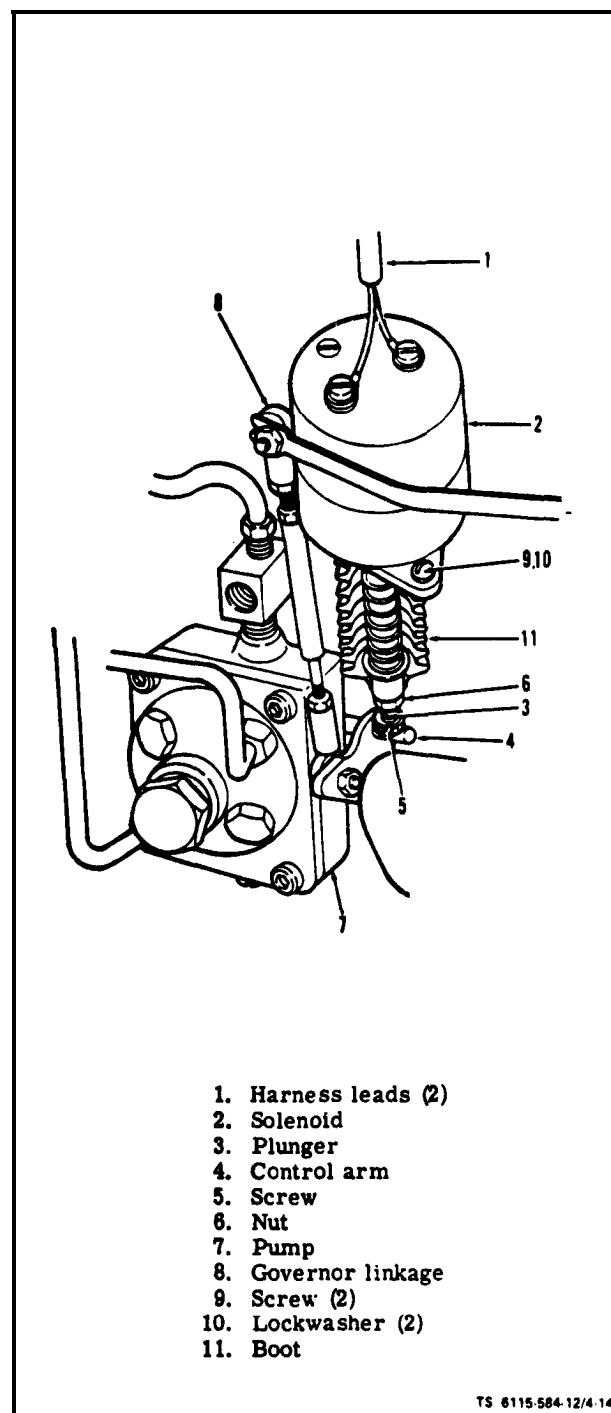
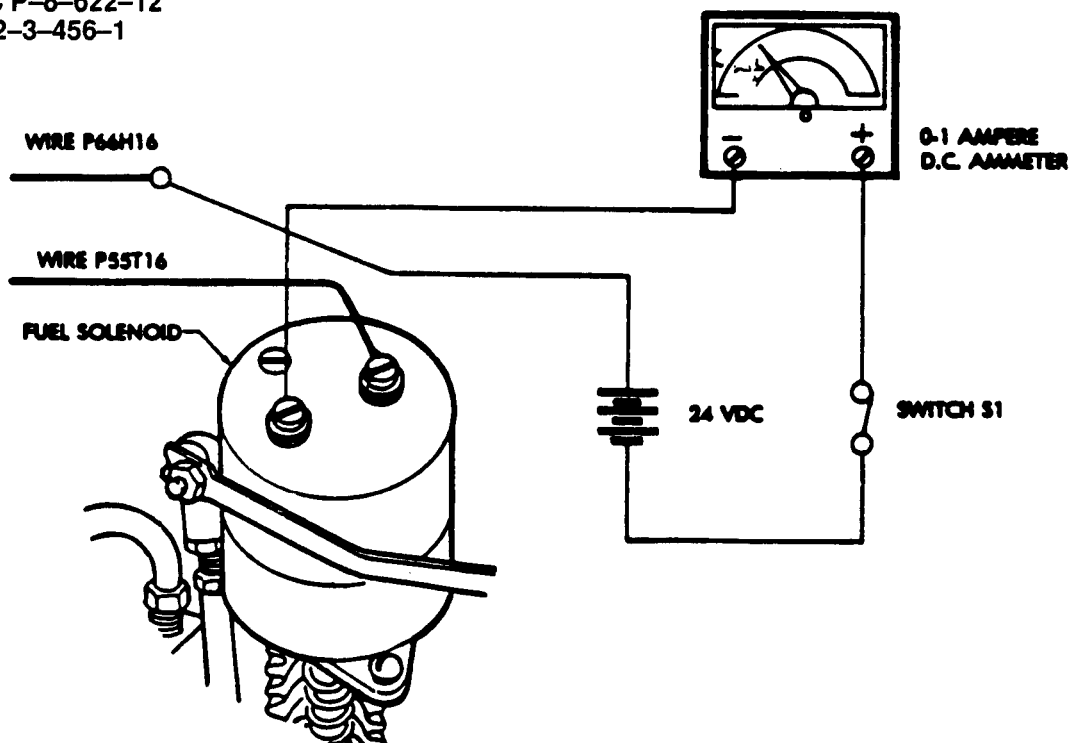

Figure 4-14. Adjusting Fuel Shut-Off Solenoid
Figure 4-15. Fuel Solenoid Test Set-Up.
a. Inspect (on Equipment) (see figure 4-14). On ASK equipped generators, remove right panel assembly (para 5-6). Check that electrical connections (1) are secure and clean. Check that rubber boot (11) is clean and not broken. Check that governor and pump linkage moves freely and is clean.
b. Test (on Equipment) (see figure 4-15).
(1) Tag and remove the solenoid harness leads (1). Figure 4-14.
(2) Check for continuity between terminals of the fuel shut-off solenoid. If continuity is not obtained, the unit is unserviceable.
(3) Check for ground between fuel shut-off solenoid terminals and ground. If terminals are grounded, the unit is unserviceable.
(4) Connect the solenoid into test set-up (fig 4-15).
(5) With switch (S1) closed, the plunger should actuate and the current draw should be 0.25 ampere dc.
(6) If plunger does not actuate or, if meter reads above 0.35 ampere, replace solenoid.
c. Remove (see figure 4-14). Tag and disconnect harness leads (1). Remove the shut-off solenoid by removing screws (9) and lockwashers (10).
d. Installation. Mount shut-off solenoid using screws (9) and lockwashers (10). Reconnect previously tagged and removed harness wires (1).
e. Adjust. The solenoid plunger (3) should be adjusted so it fully stops injection when in the de-energized position. With engine running at full rated load, clearance between plunger (3) and control arm (4) should be at least 1/8 inch. To adjust the plunger length, turn the knurled head screw (5) and jam nut (6) on bottom of plunger. On ASK equipped Generator Sets, install right panel assembly (para. 5-6).